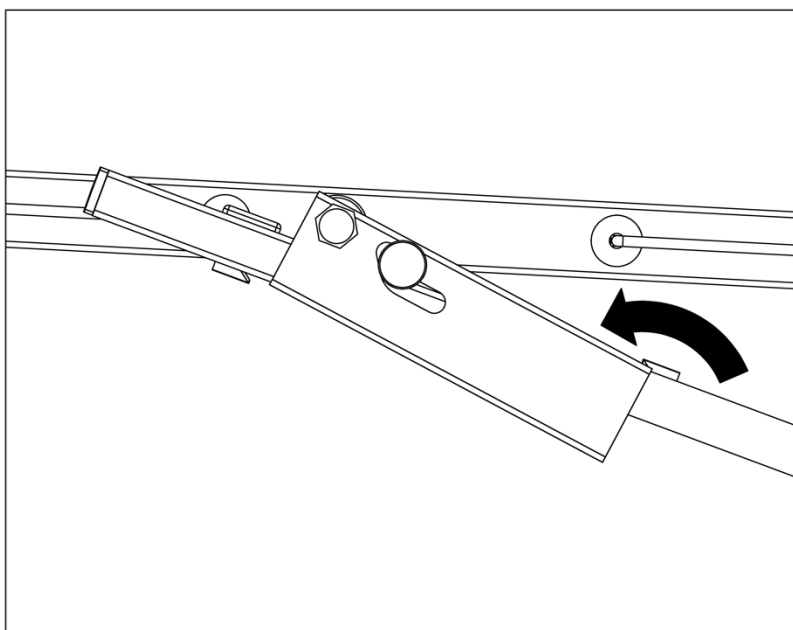

Fig 11. Catch jumps over protrusion.
- Keeping an eye on the catches, lift until each catch has jumped over the top protrusion on the stay. (Fig.11)